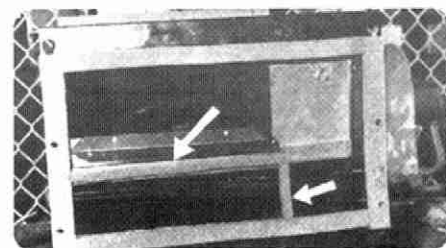

Figure 13
13. Rubber cement foam rubber seals into place on the installed baffle assembly (Figure 13).